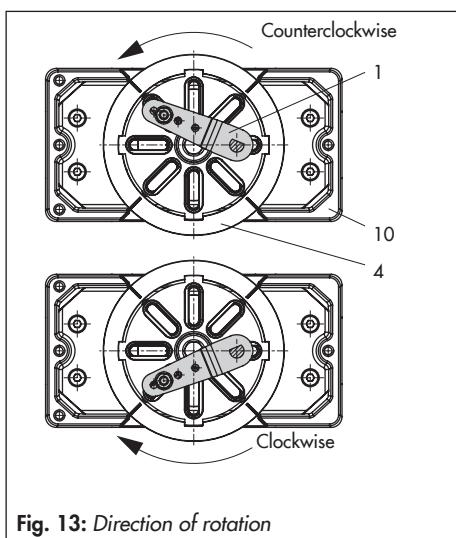

Fig. 13: Direction of rotation
2. For **SAMSON Type 3278 and VETEC S160 Rotary Actuators**, screw the adapter (5) onto the free end of the shaft or place adapter (5.1) onto the shaft of the **VETEC R Actuator**. Place adapter (3) onto **Type 3278, VETEC S160 and VETEC R Actuators**. For **VDI/VDE version**, this step depends on the actuator size.
4. Fasten coupling (4) on the slotted actuator shaft or adapter (3) using screw (4.1) and disk spring (4.2).
5. Unscrew the standard follower pin (2) from the positioner's M lever (1). Attach the follower pin (\varnothing 5 mm) included in the mounting kit to pin position 90°.
6. Mount connecting plate (6) for required G $\frac{1}{4}$ connecting thread or pressure gauge bracket (7) with pressure gauges on the positioner, making sure the two seals (6.1) are seated properly. Double-acting springless rotary actuators require the use of a reversing amplifier on the connection side of the positioner housing (refer to section 4.6).
8. Place positioner on housing (10) and screw it tight. Taking the actuator's direction of rotation into account, adjust lever (1) so that it engages in the correct slot with its follower pin (Fig. 13).